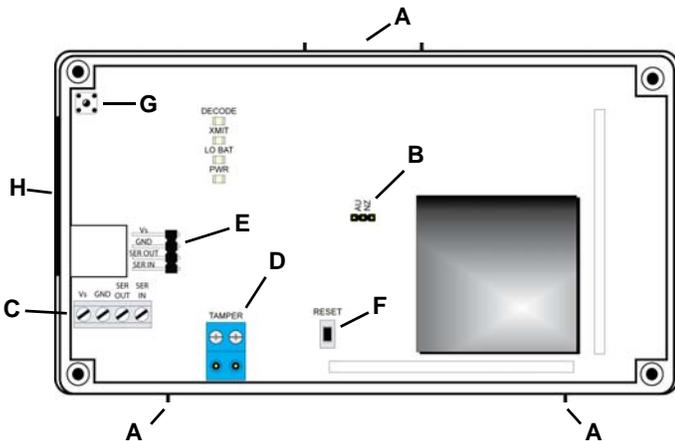

Figure 3 EN6040-T network coordinator internal components
1. Use a small screwdriver to press the top housing release tab and separate the housing (Figure 3).
4. If an external tamper switch is needed, connect a cable to the tamper terminal (Figure 3). Tamper cabling should meet the following specifications:
5. Route the cabling through the side cabling knockout (Figure 3).
6. Place a selection jumper on the frequency band selection pins appropriate to your geographic area (Figure 3).
7. Press the reset button to complete configuration (Figure 3).